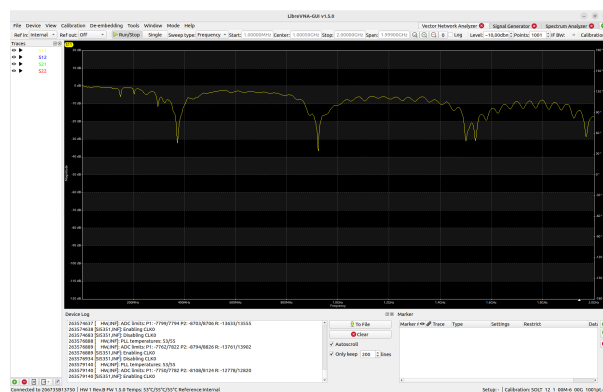

Figure 14: VNA GUI interface after setting up for antenna measurement.
- Remove all other figures, but S11 XY-plot. In all other figures, right click the figure, select "Close" and then select "Close tile". Your output should resemble figure 14 (if an antenna is connected).